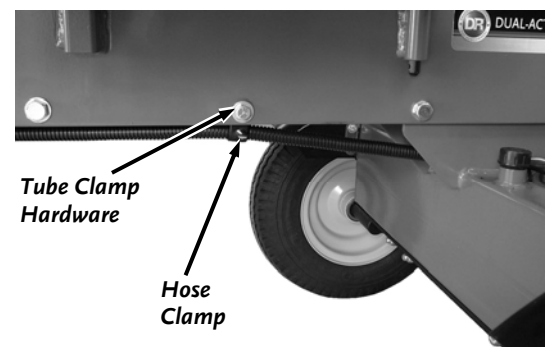

Figure 39
17. Remove a Bolt, Washer and Locknut at the center of the Frame on the Left side with two 9/16" Wrenches (**Figure 39**). Place the large Tube Clamp over the Harness and secure to the Frame with the Bolt, Washer and Locknut from the kit. Tighten the Clamp Hardware with two 1/2" Wrenches.